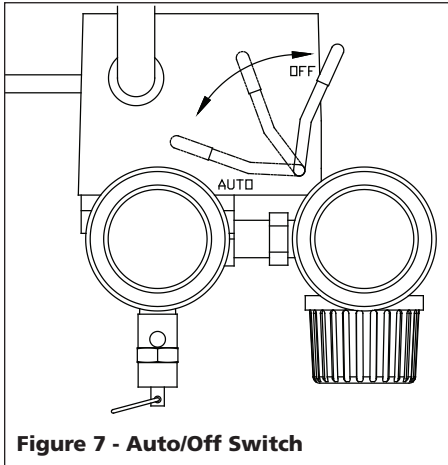

Figure 7 - Auto/Off Switch
- **Pressure Switch** - Auto/Off Switch (Figure 7) - In the **AUTO** position, the compressor shuts off automatically when tank pressure reaches the maximum preset pressure. In the **OFF** position, the compressor will not operate. This switch should be in the **OFF** position when connecting or disconnecting the power cord from the electrical outlet or when changing air tools.